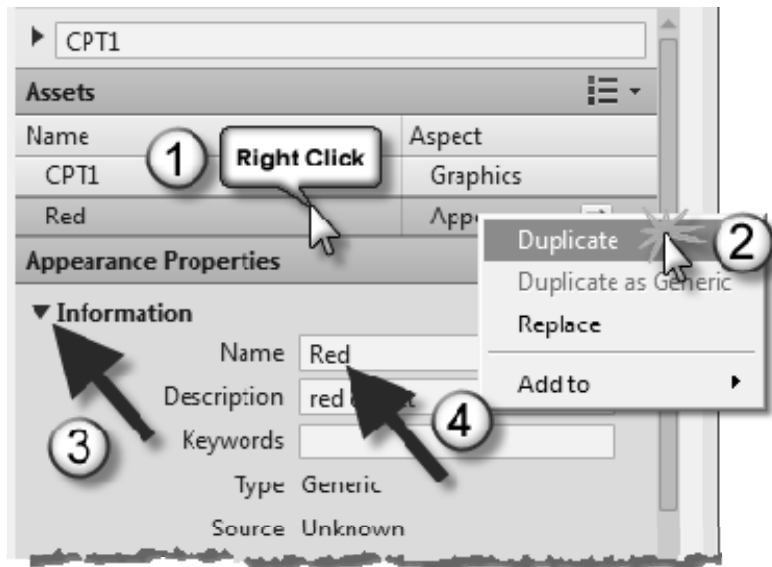

FIGURE 4-3.9 Duplicating an appearance asset
Notice, on the *Appearance* panel (Figure 4-3.9), that a PNG raster image is assigned to this material. You will download an image from the carpet manufacturer’s website and then edit your *Material* to use this new image. Keep in mind that anyone who might work on the project needs access to the image file location. So, in an office environment, you would not want to save this file to your local hard drive.
18. Back in Revit, on the *Appearance* panel, right click on the *Appearance* asset title as shown in Figure 4-3.9.